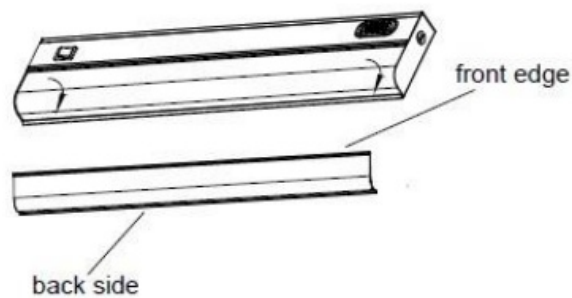

Fig.1
1. Carefully remove the diffuser by squeezing the front edge with forefingers while holding the back side with thumbs (Fig. 1).